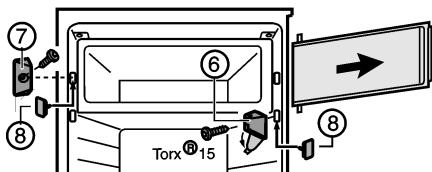

Fig. 2
- Fold away cover of turn hinge Fig. 2 (6).
- Unscrew turn hinge Fig. 2 (6) together with compartment door.
- Unscrew closing element Fig. 2 (7).
- Close the vacated holes with the accompanying stoppers Fig. 2 (8).